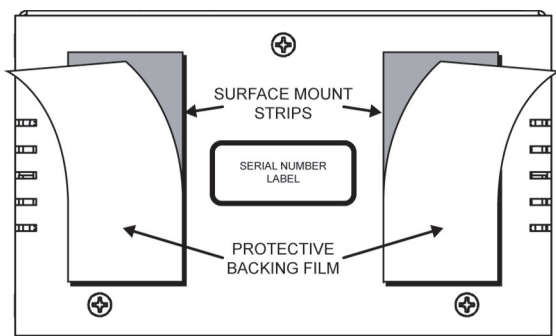

Figure 2 Surface Mount Installation Option
2. Adhere the **Surface Mount Strips** to the bottom side of the chassis. (**Figure 2**)